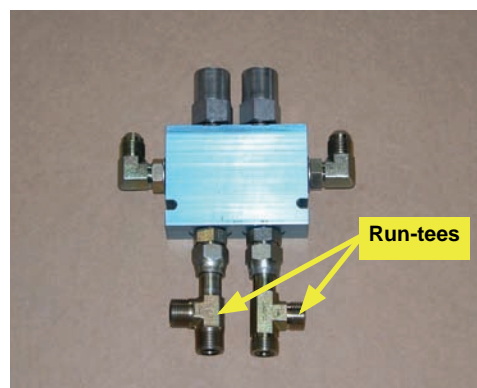

Figure 1d: Run-tees installed on the straight adapters in the CBV
- e. Install the run-tees provided in your ED-C8900 installation kit in the adapters **HB** in the **C1** and **C2** ports on the counterbalance valve (Figure 1d).